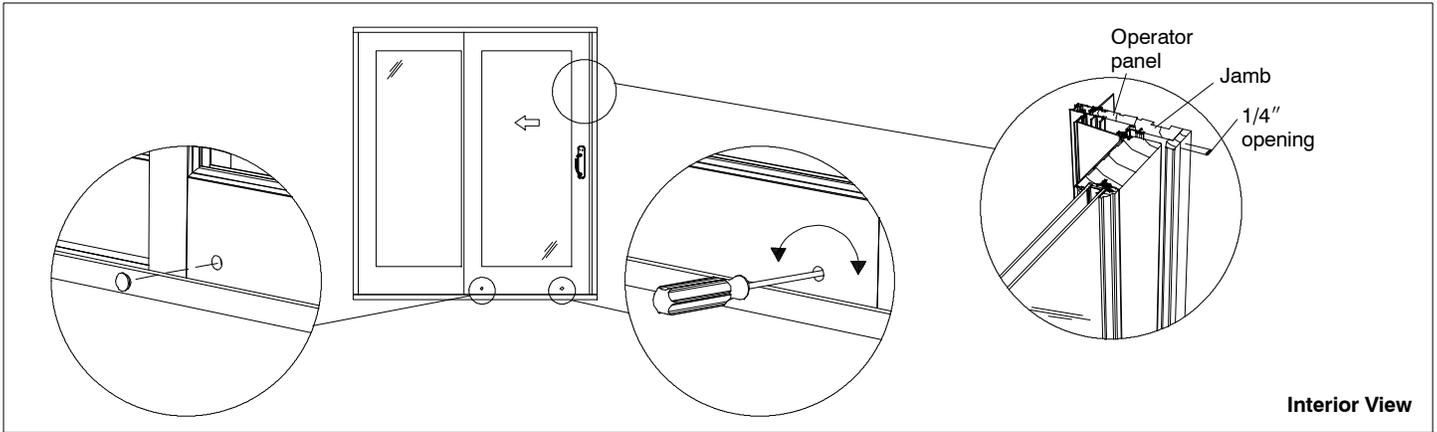

Figure 2: Adjusting the panel.
1. Adjust panel roller assemblies by rotating adjustment screws until operator panel is in the lowest position. Then adjust roller assemblies up until door slides easily. See figure 2.
2. Open door 1/4" (6) from the jamb and adjust one roller until operating panel is parallel to the jamb. Insert wood adjustment hole plugs in bottom rail of panel after all roller adjustments are complete. See figure 2.